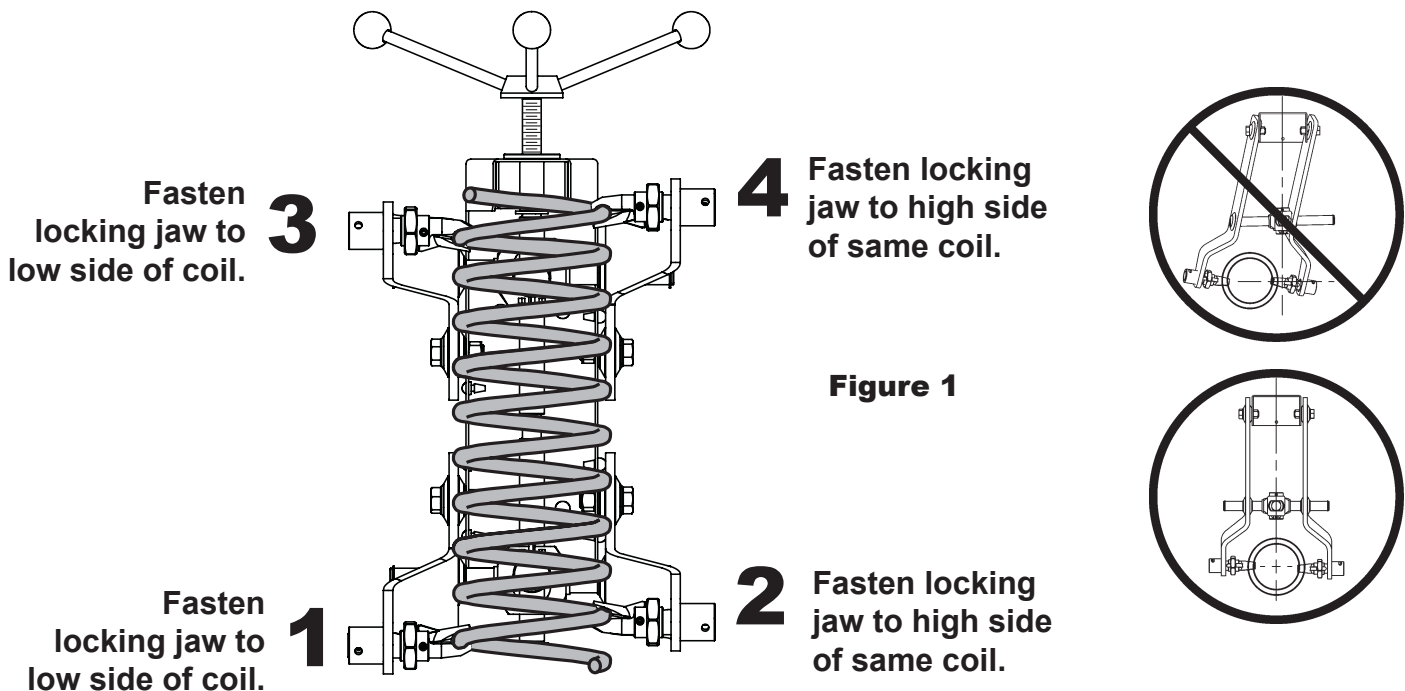

Figure 1
3. Choose the lowest possible spring coil to insert into the lower left jaw; hand tighten the locknut. See Fig. 1.
7. Before servicing the strut assembly, **align the strut spring with the forcing screw** on the strut spring compressor as shown in Figure 1.
1. If replacing the spring, remove the old spring from the strut tool. Install the new spring in the tool, assembling the locking jaws as shown in Figure 1. Compress the spring.